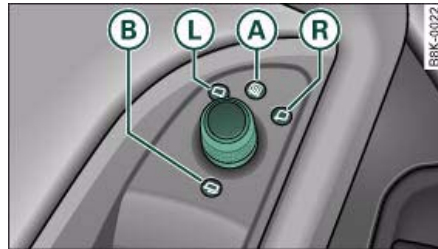

Fig. 69 Detail of the armrest: Adjuster knob
- Turn the adjuster knob to position **L** (left exterior mirror) or position **R** (right exterior mirror) ⇒ fig. 69.
When reverse gear is engaged, the mirror surface tilts slightly downwards, provided the mirror control is switched to the exterior mirror on the passenger's side (knob in position **R** ⇒ fig. 69). This provides a better view of the kerb when parking.